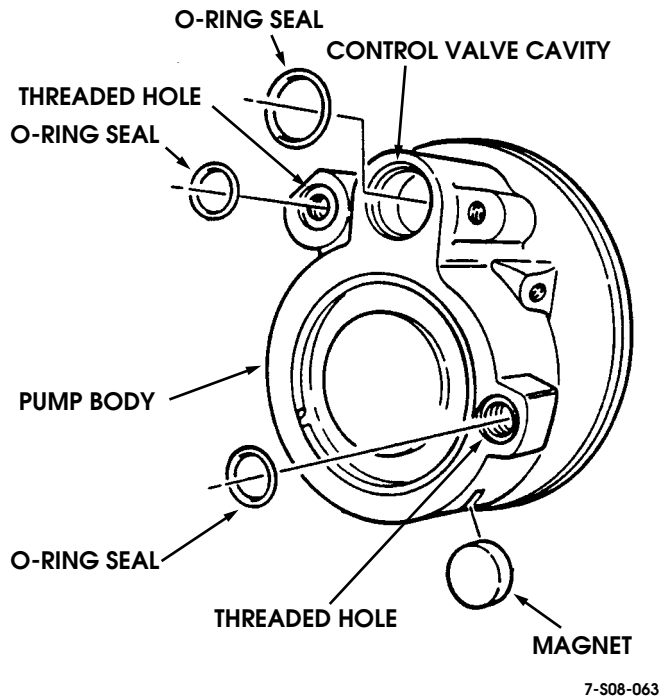

Figure 8-80: "O" Ring Installation
- 15. Install magnet in pump body (Figure 8-80).